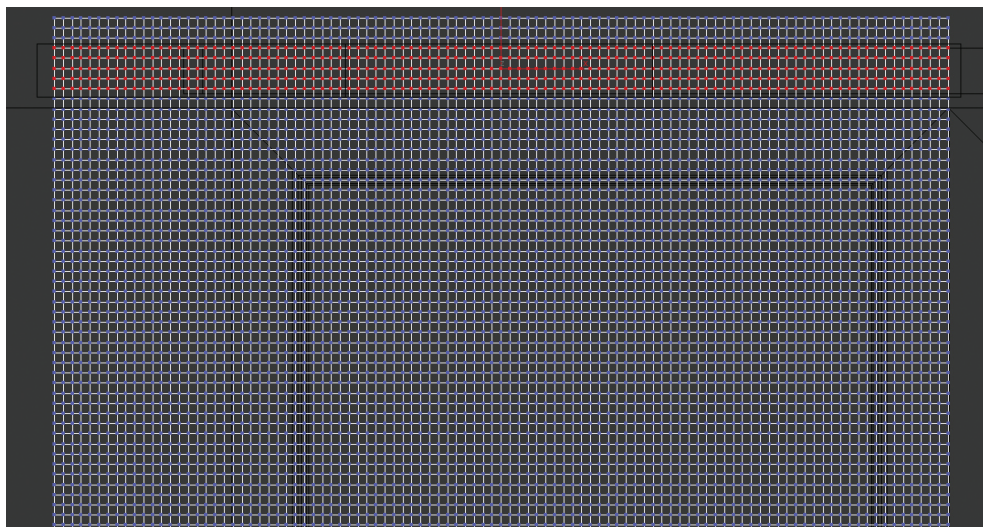

Figure 3: Selected verts
- After right-clicking to exit the Zoom tool, make certain that the selection method is set to 'Rectangular' and then click and drag to make a rough selection of all the curtain vertices that sit within the visible volume of the driver (Box) object as seen in Figure 3.